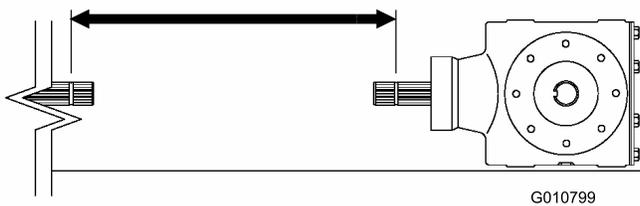
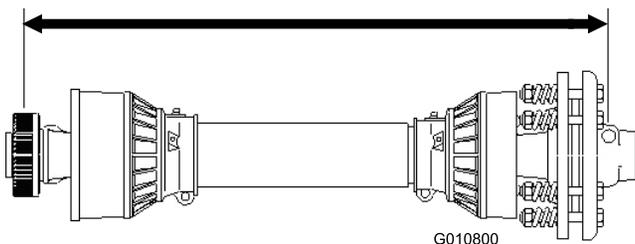

Figure 15
Figure 16
5. Measure the distance from the locking groove on the end of the tractor PTO shaft to the locking groove on the aerator gearbox PTO shaft (Figure 15). Record this distance. Example: 70 cm (27.5 inches).
6. On the PTO shaft, measure the distance from the center of locking pin ball on one end to the center of the locking pin on the other end (Figure 16). Record this distance. Example: 81 cm (32 inches).
7. Using the smaller of the two measurements in Figure 15 and Figure 13, subtract that distance from the distance in Figure 16. Example: 81 cm (32 inches) minus 67 cm (26.5 inches) equals 14 cm (5.5 inches).